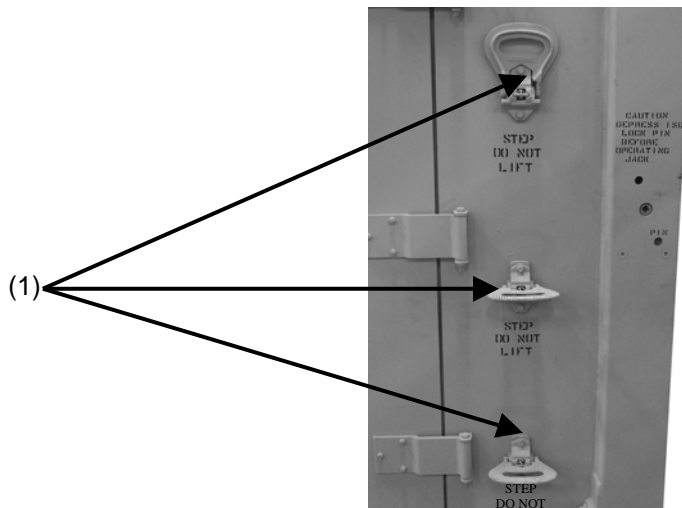

Figure 2-25. Folding steps located on personnel end wall.
(1) MIL-STD-209J – Interface Standard for Lifting and Tiedown Provisions
(2) MIL-STD-913A – Requirements for the Certification of Sling Loaded Military Equipment for External Transportation by Department of Defense Helicopters
Container may be lifted or moved with an overhead crane using an external sling. Folding steps (1) on container may be lowered to allow personnel to climb on top of unit (Fig. 2-25). Folding steps must be returned to upright position prior to container being moved. This allows easier access to ISO corners for attachment purposes. Hoisting from ISO corners should be performed as follows: